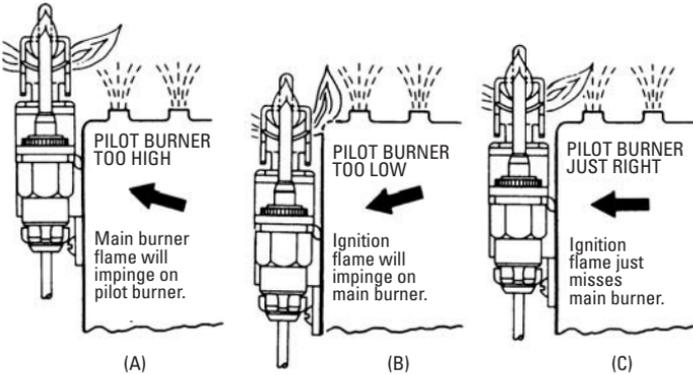

Figure 5-61 Proper positioning of the pilot burner flame.
- 3. Mount the pilot burner so that the flame is properly positioned with respect to the main burner flame (see Figure 5-61).